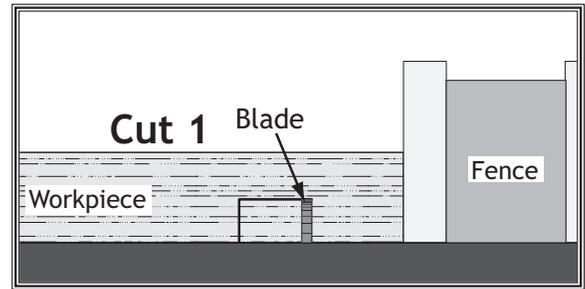

Figure 52. First cut when using a single blade for making a dado.
5. Align the blade to cut one of the dado sides, as shown in Figure 52.